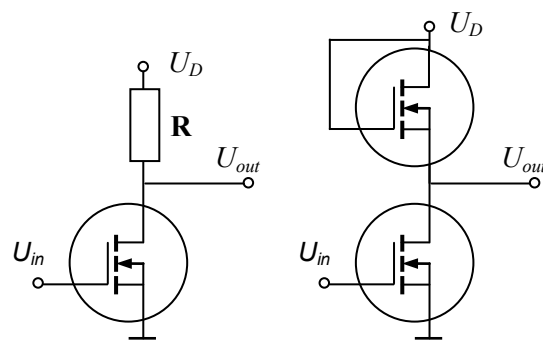

Fig. 2.43
**Inverter switches.** Fig. 2.43 shows passive and active *inverter switches* built on the MOSFETs. When the input voltage  $U_{in}$  is low (less than the threshold level), the output voltage  $U_{out}$  is high (equals the supply voltage) and vice versa if the *passive load*  $R$  is much greater than the drain resistance  $R_{DS}$ . The word “passive” means an ordinary resistor. When using an *active load*, the lower MOSFET still acts as an on-off switch, but the upper one acts as a large resistance with